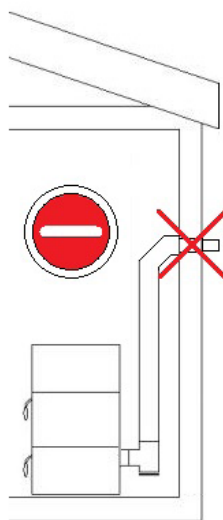

Fig. 8 - Prohibition
- It is forbidden to exhaust flue gases directly from the wall towards the outside and closed spaces also at open top (see **Fig. 8 page 11**).